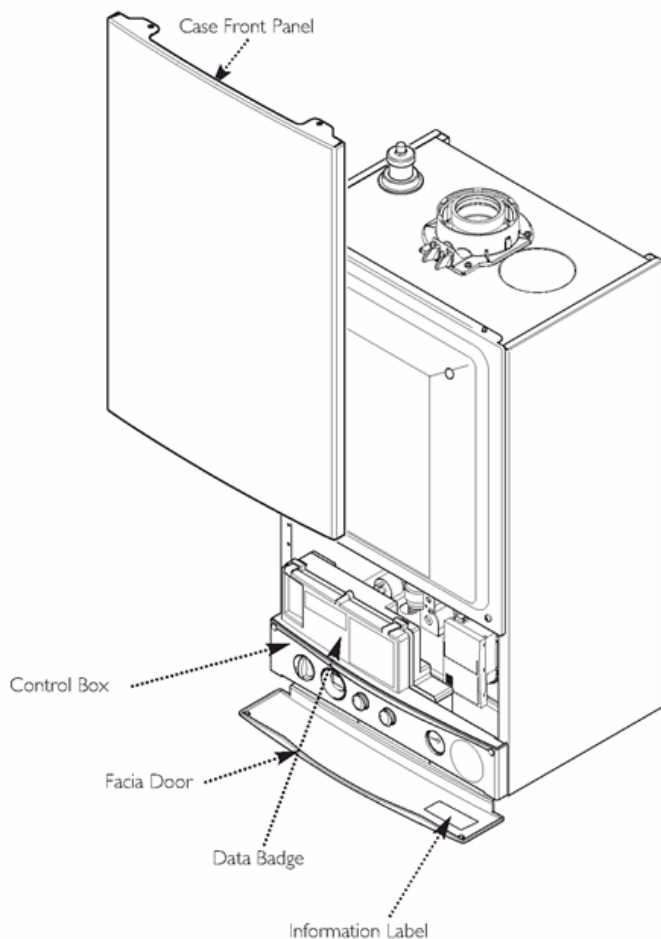

Fig. 1
5. The boiler data badge gives details of the model, serial number and Gas Council number. It is visible when the case front panel is removed (Fig. 1).